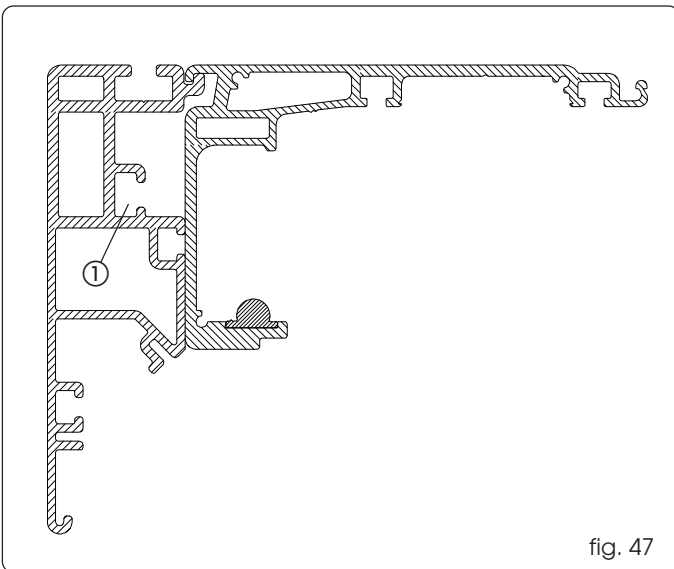
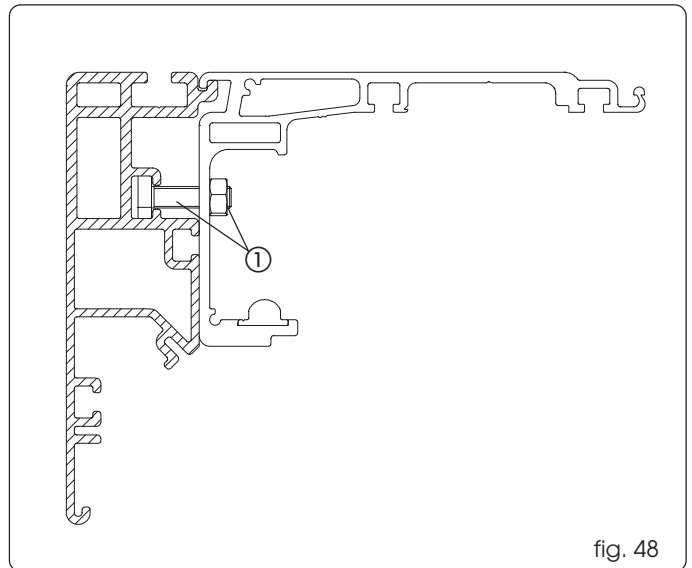

fig. 47
fig. 48
Fit the M8 stay screws (the number of stay screws varies according to header length) in the slot on the self-supporting profile (fig. 47 ref. ①).
Couple the support profile to the self-supporting profile (fig. 47) and assemble them, using the stay screws and nuts, on the horizontal slots on the support profile (fig. 48 ref. ①).